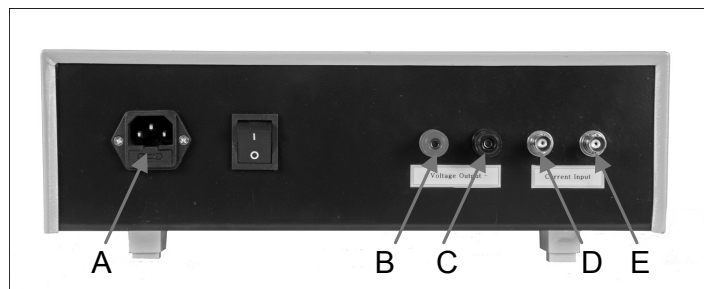
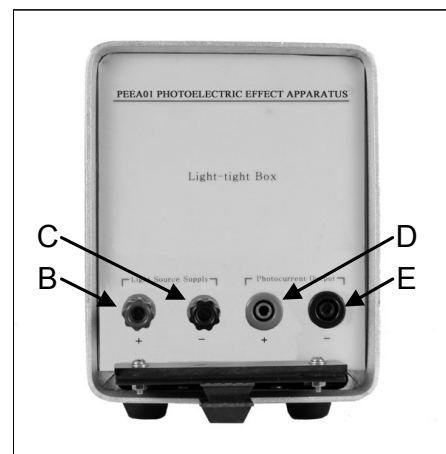

Figure 7
Figure 8
- Make the electrical connections between the control unit and the light tight box: *Figure 7* shows the rear of the control unit *Figure 8* shows the end of the light tight box. *Note: the results depend sensitively on the stability of the lamp current and the amplifier. Make sure that the connections are correctly polarized and firmly connected.*
- Connect the lamp supply. Using the supplied cables with a banana plug and a spade lug, connect the jacks marked B in *Figures 7 & 8* (red) Similarly connect the jacks marked C (black).
- Connect the phototube signal to the control unit. Using the supplied cables with the BNC connectors and the banana plugs, connect the jacks marked D in *Figures 7 & 8* (red). Similarly connect the jacks marked E (black).
- With the power switch on the off position, connect the supplied power cable to the IEC connector (A in *Figure 7*) and then to a 110VAC outlet.
- The fuse is located on the lower part of the IEC power cord socket (see *Figure 7*). Unplug the apparatus from the 110VAC outlet before removing the fuse tray with the tip of a screwdriver. Replace the fuse with a 5 x 20 mm miniature fuse rated at 250V/1.5A. DO NOT USE A HIGHER-RATED FUSE to avoid damage to the apparatus.